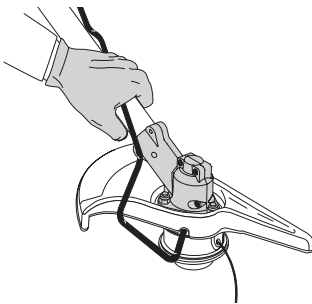

FIGURE 9
2. Hold the locking rod in place by grasping it next to the boom of the unit, Figure 9.